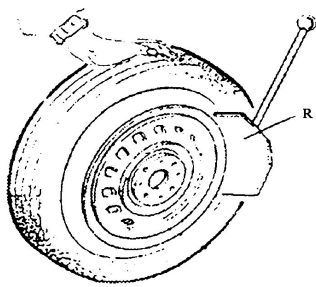

Fig 5
Ensure to exhaust air in the tyre completely, place the tyre against the rubber buffer (S). Bring the shovel (R) against the bead about 10mm from the edge of the rim shown as Fig 5. Tread Bead breaker Pedal (U) to press shovel into tyre. Repeat the above operations on different positions around the tyre and both sides of tyre until tyre bead is released completely.